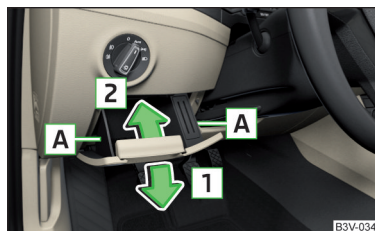

Fig. 356
- Hold the stacker laterally in the region [A] and open by pulling in the direction of arrow [1] (A greater force is required to open) » Fig. 356.